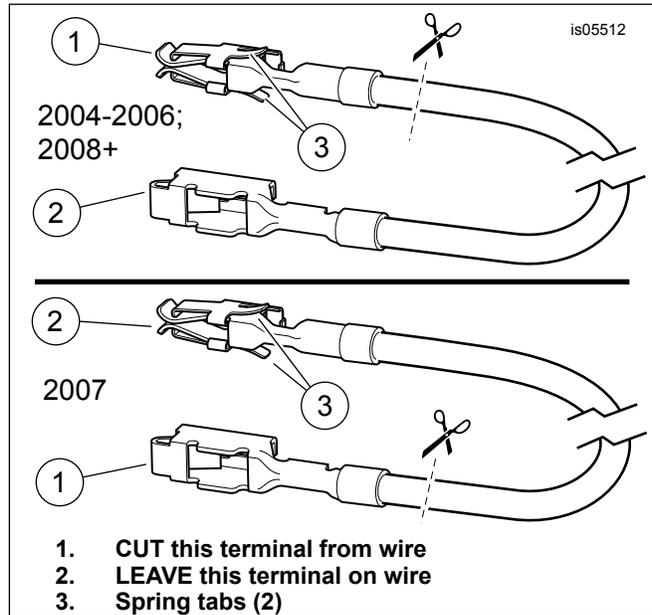

Figure 13. Fuse Block Adapter Wire (FL Touring)
- Obtain the orange/white fuse block adapter wire (9) from the kit. **2004 through 2006 models:** Note the terminal on each end (see Figure 13, **upper view**). Only the terminal **WITHOUT** the spring tabs will fit into the fuse cavity. Carefully cut the terminal **WITH** spring tabs from the wire and discard it. **2007 models:** Note the terminal on each end (see Figure 13, **lower view**). Only the terminal **WITH** the spring tabs will fit into the fuse cavity. Carefully cut the terminal **WITHOUT** spring tabs from the wire and discard it.